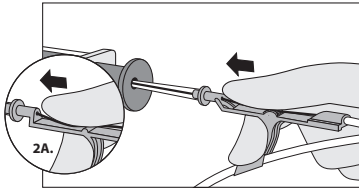

Figure 2
4. If using Arrow GlideWheel Advancer, advance guidewire through the Arrow Raulerson Syringe or through the introducer needle by pushing advancer wheel and guidewire forward (refer to Figure 2). Continue until guidewire reaches desired depth.